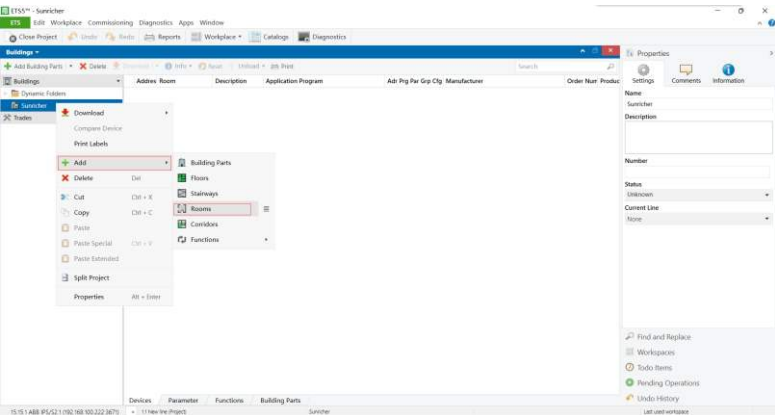

Figure 20
2.7. Right click on the created project name on the left, then click on “Add” and “Rooms” to add a room to the project, fill out the information and then click on “OK” button to create the room as shown in Figure 20 & 21.